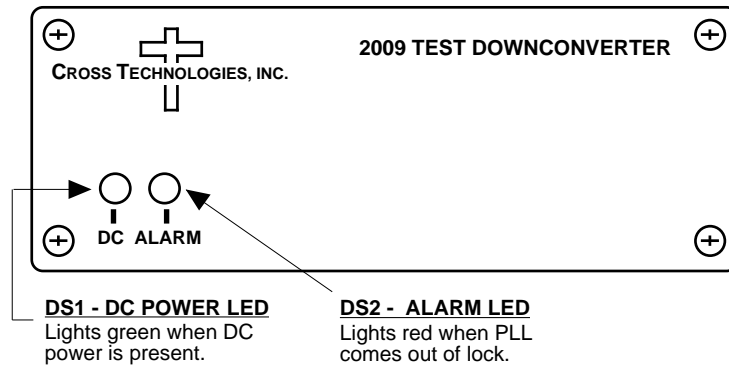

FIGURE 2.2 Model 2009-140 Front Panel Indicators
Figure 2.2 shows front panel indicators.
4. Be sure DS1 (green, DC Power) is on and DS2 (red, Alarm) is off (Figure 2.2).